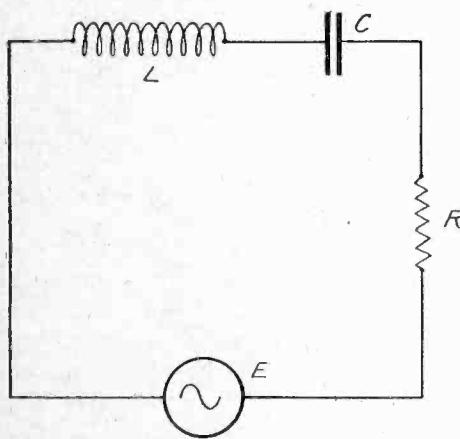

Fig. 6. Simple Oscillating Circuit.
**Oscillation Generator.** Now that consideration has been given to all the factors which affect the behavior of an oscillating tube and the action of the grid in controlling the current in the plate circuit, let us connect a tube as a generator  $E$  in a simple circuit consisting of inductance, capacity and resistance in series, as shown in Fig. 6.